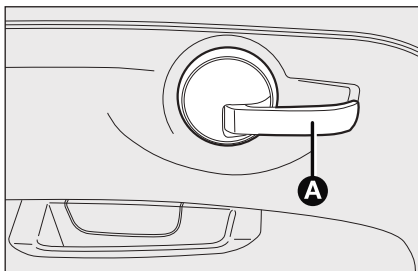

fig. 44
**To release** pull lever **A-fig. 44**.
**To lock**. Push the control lever **A-fig. 44** toward the door